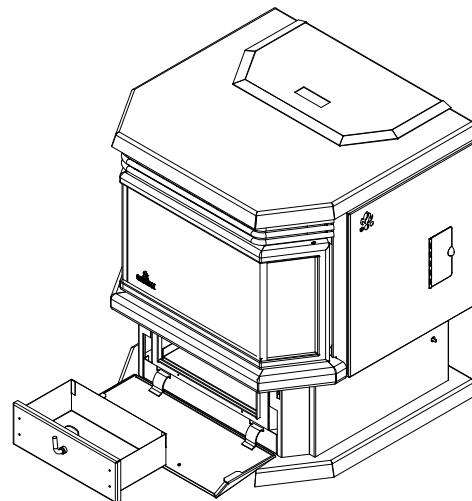

FIGURE 20
- f. Periodically remove and empty the ash bin (see Figure 20) by opening the front lid of the pedestal below the ash lip. Dispose of ashes properly. (See "ASH REMOVAL" above)